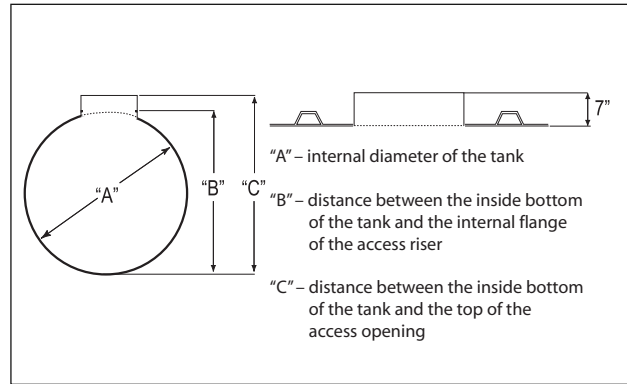

FIGURE 13-2
13.1.3. For wastewater tanks, refer to FIGURE 13-2 along with TABLE 13-2 to correctly size internal piping.